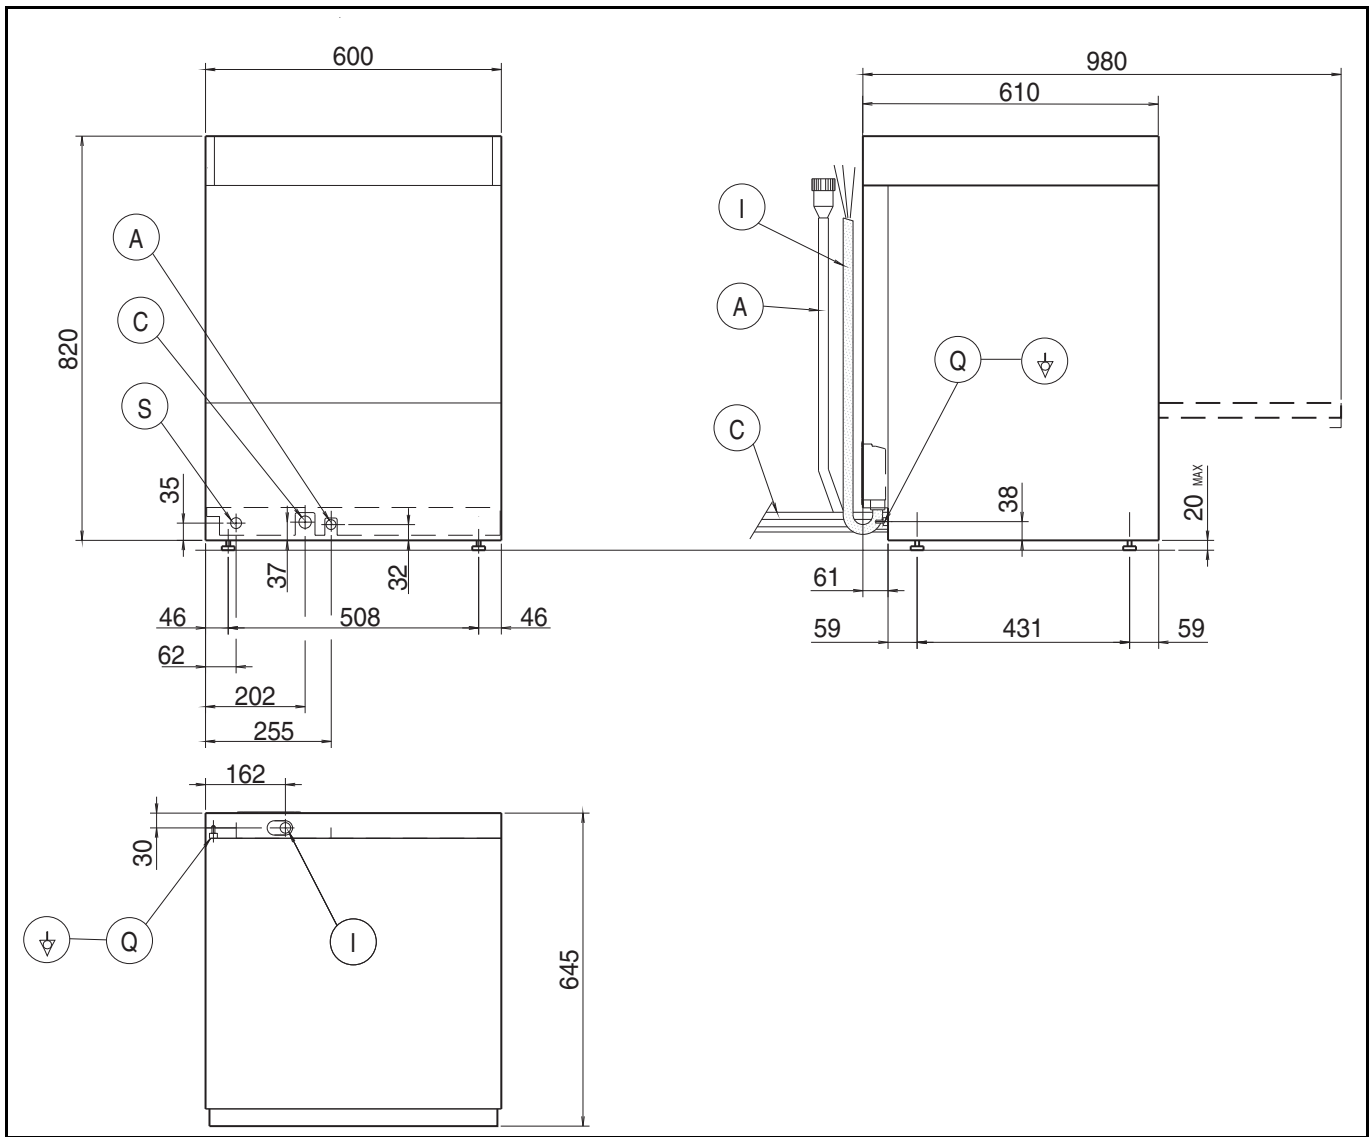
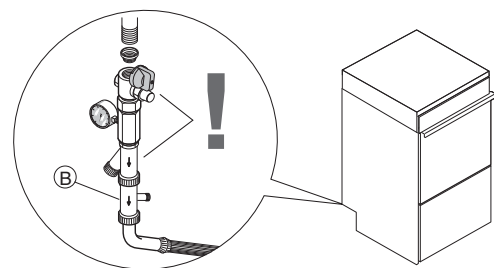

Figure 4
Figure 9
Legend Figure 4
- Connect the appliance water supply pipe "A" (Figure 4) to the mains, fitting a cut-off valve, the filter provided and a pressure gauge between the appliance and the mains (Figure 9).
- In NUC1G / EUC1G models, connect the double non-return valve "B" (Figure 9) supplied and the machine supply pipe.
connect the waste outlet pipe “C” (Figure 4) to the main drain pipe, fitting a trap, or place the outlet pipe over an S trap set into the floor.
- Connect the earth wire of the power supply cable to an efficient earth clamp. The appliance must also be included in a unipotential system, the connection being made through the screw “Q” (Figure 4) marked with the symbol “▽”. The unipotential wire must have a cross section of 10 mm².